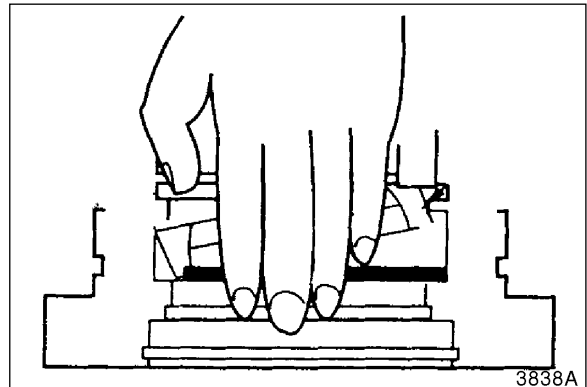

Figure 19
5. Check to be sure that U-packing and backup ring are correctly installed by pushing with your hand on inner diameter of U-packing. See Figure 19.